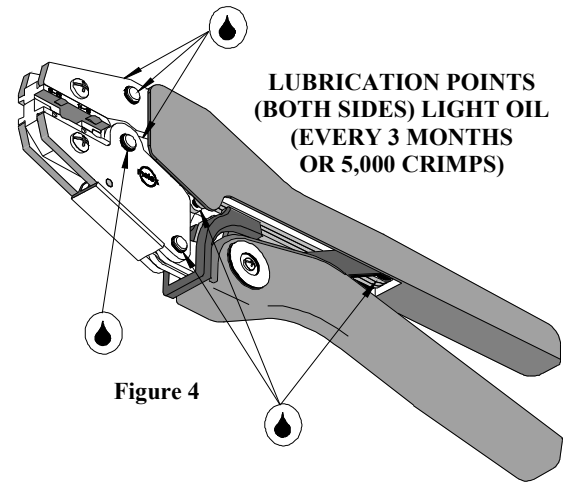

Figure 4
3. Make certain all pins; pivot points and bearing surfaces are protected with a thin coat of high quality machine oil. Do not oil excessively. This hand tool was engineered for durability, but like any fine piece of equipment, it needs cleaning and lubrication for a maximum service life of trouble-free crimping. Light oil, such as 30 weight automotive oil, used at the oil points shown in Figure 4, every 5,000 crimps or 3 months will significantly enhance the tool life and ensure a stable calibration.